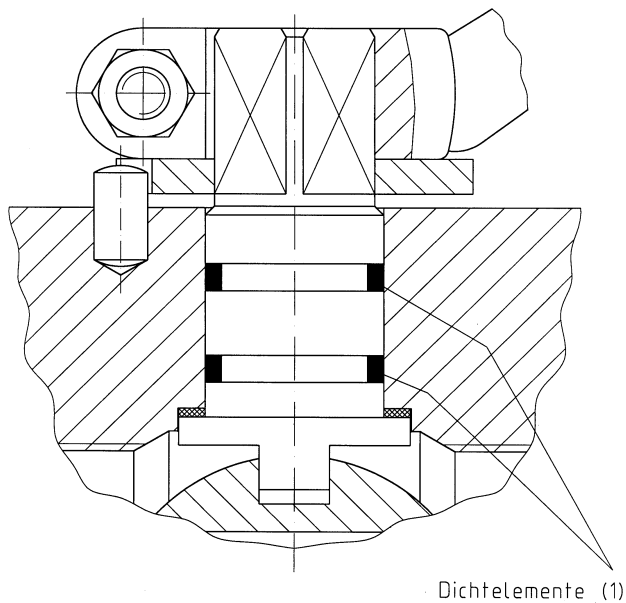

Fig. 5
Here medium is prevented from escaping by two seals (1) (see Fig. 5).